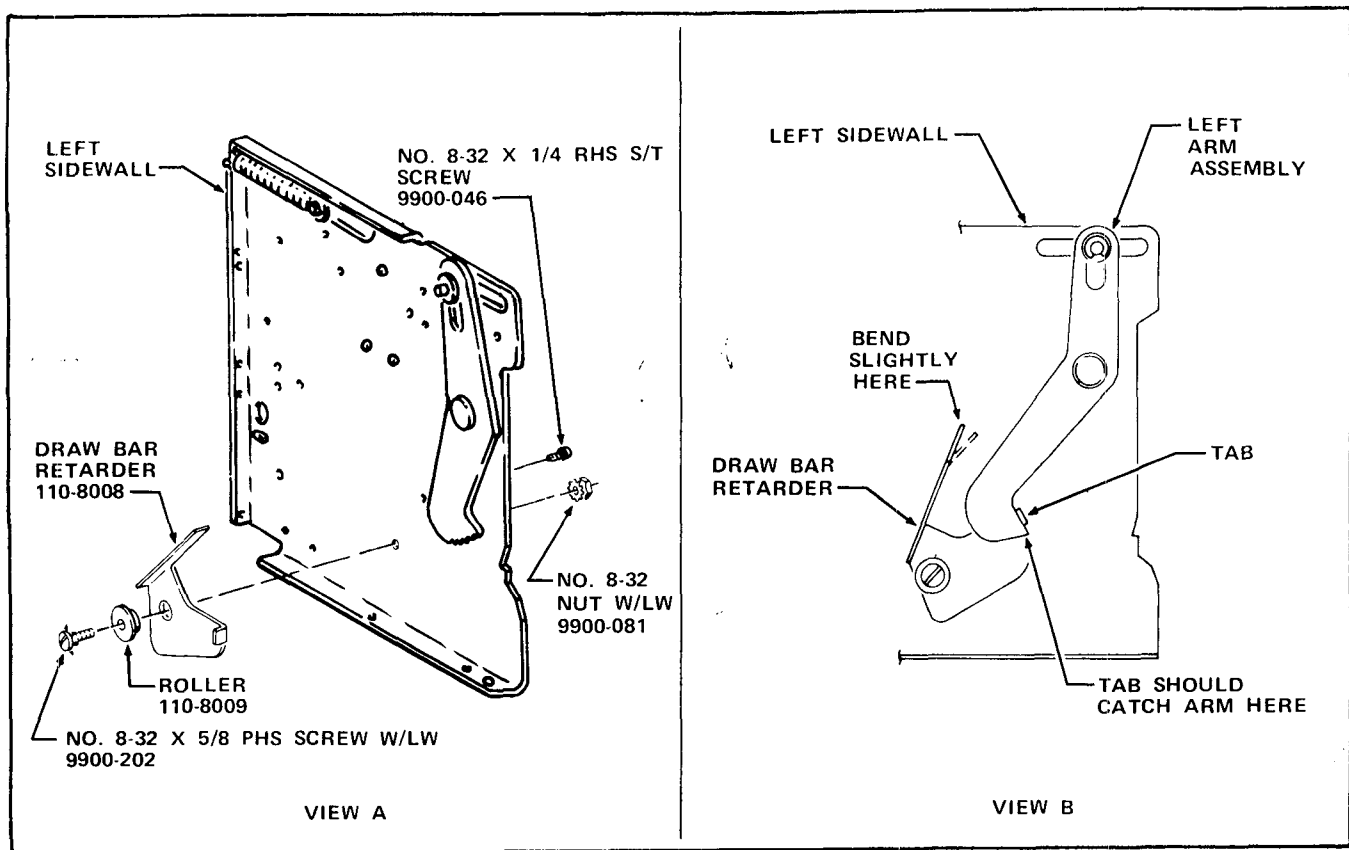

FIGURE 6-6
38. Install the Draw Bar Retarder, Part Number 110-8008, and Roller, Part Number 110-8009, on the Left Sidewall using a No.8-32 x 5/8 PHS Screw with Lockwasher, Part Number 9900-202, and a No.8-32 Nut with Lockwasher, Part Number 9900-081, all included in the Kit. Lubricate the Roller with Lubriplate. See View A of Figure 6-6.
39. Install a No.8-32 x 1/4 RHS Self Tapping Screw, Part Number 9900-046, included in the Kit, from the inside of the Left Sidewall so the Draw Bar Retarder Arm rests on the threads of the Screw. See View A of Figure 6-6.
When a pull knob is pulled too fast, the Draw Bar Retarder Tab will lock the Left Arm Assembly, preventing a "free" vend. To complete the vend cycle when this happens, pull the Pull Knob all the way out, which will release the Left Arm Assembly and allow the Pull Knob to return to the at rest position. If the Draw Bar Retarder does not satisfactorily lock the Left Arm Assembly when a Pull Knob is pulled fast, bend the Draw Bar Retarder Arm down slightly until the Draw Bar Retarder works properly. See View B of Figure 6-6.